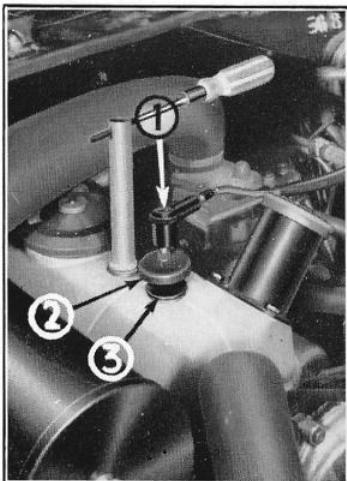

Figure 19
- Sparking plug lead 1 (fig. 19),
Unscrew the plug using a screwdriver as a lever (fig. 19). The copper asbestos gasket should remain on the thread of the plug.